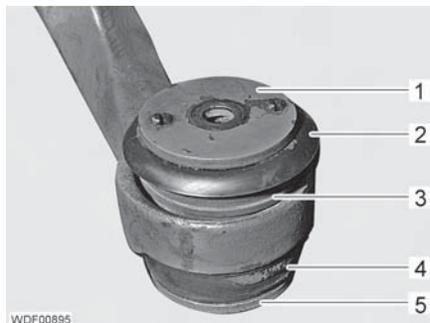

Fig. 61 Rubber buffer
- Remove the washer (Fig. 61,1).
- Remove cap (Fig. 61,2) and lower section (Fig. 61,5).
- Detach the rubber buffers (Fig. 61,3 and 4).
- Push in the lower section (Fig. 61,5) and cap (Fig. 61,2).
- Fit the washer (Fig. 61,1) onto the cap.